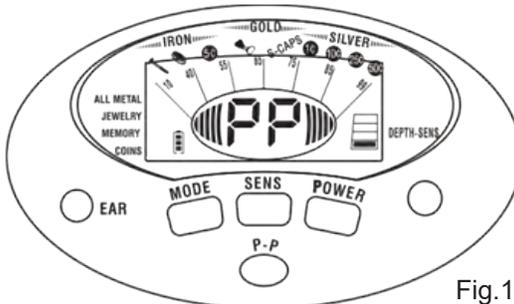

Fig.17
b) Let the 25 ¢ silver coin approach the search coil slowly, in the position of about 7”-8”, the first group of signal strength cursor begins to appear, and the sound turns louder. Continue let the 25 ¢ silver coin approach the search coil, and the signal strength cursor is full-scale quickly, the sound is more louder, then the depth cursor denotes the depth dropping, until one is left, which means the metal is gradually close to the center of the search coil. (See Fig. 17)